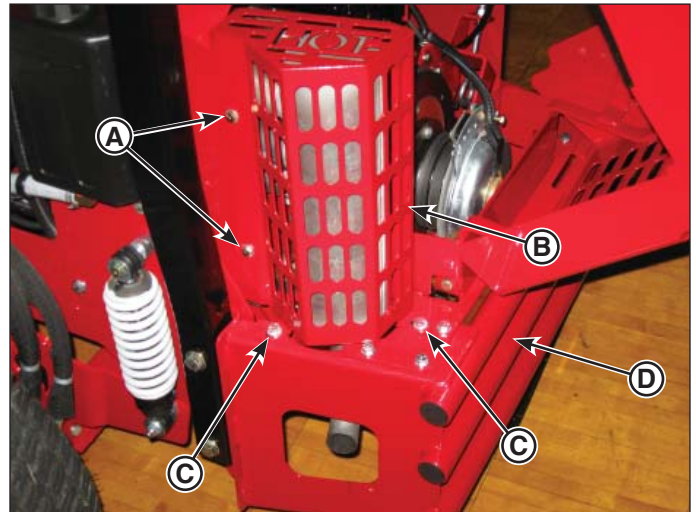

Figure 1. Removing the Muffler Guard
2. Open the hood by unclasping the two (2) rubber straps from the hood and tilting the hood open.
3. Remove the two (2) 1/4-20 X 3/4 bolts and 1/4 SAE washers (**A**, **Figure 1**) that secure the muffler guard (**B**) to the cowling.
4. Remove the two (2) 5/16-18 X 3/4 bolts, 5/16 gr. 9 washers and 5/16-18 nylon flange nuts (**C**) that secure the muffler bracket to the bumper (**D**). Discard the two (2) 5/16-18 nylon flange nuts.